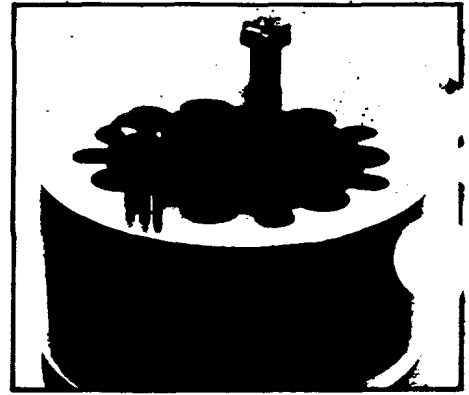

FIGURE 59
3. Insert two bolts (2) into bolt holes finger tight, approximately 180° apart to retain the stator (6B) and wearplate (7) stationary on the housing (15). SEE FIGURE 59.